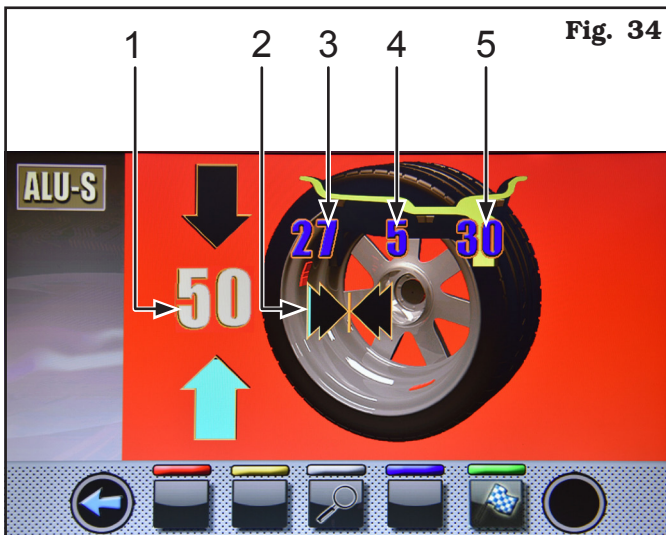

Fig. 34
Pull out the gauge rod until the arrows (**Fig. 34** ref. 6) turn green.
IMMEDIATELY AFTER HAVING SELECTED THE ECO-WEIGHT PROCEDURE, YOU CAN KNOW IN ADVANCE THE TWO DYNAMIC UNBALANCES AND THE STATIC RESIDUE IN ORDER TO DECIDE WHETHER IT IS CONVENIENT TO CONTINUE (SEE FIG. 34). IF BOTH DYNAMIC UNBALANCES AND STATIC RESIDUE ARE SHOWN AS WHITE VALUES ON THE MONITOR, THIS MEANS THAT THE PROGRAM HAS DECIDED THAT IT IS BETTER TO CONTINUE. WHILE IF, ON THE OTHER HAND, ONE OR MORE VALUES ARE BLUE, THE PROGRAM SUGGESTS USING THE STANDARD ALU-S PROCEDURE.